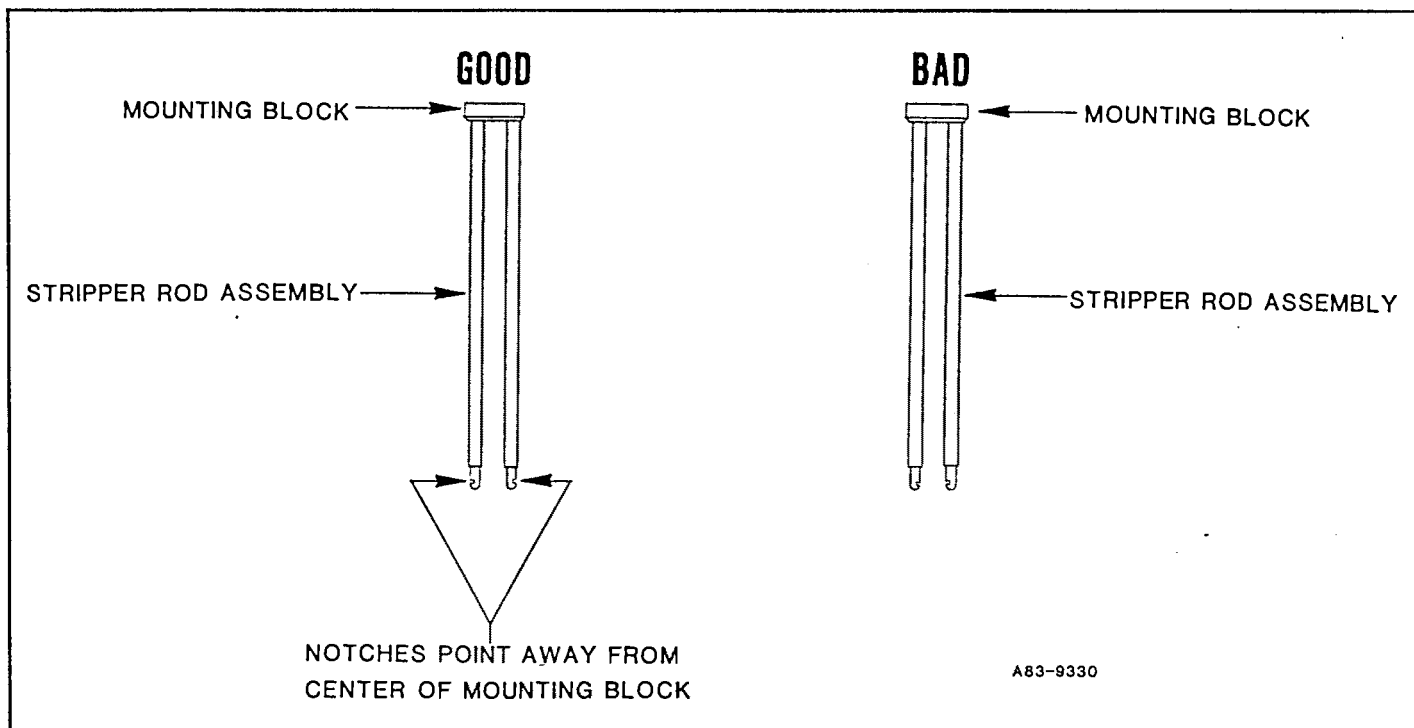

Figure 8.11 E
12. Loosen punch set screw (428) a few turns with 5/64" hex wrench.
13. Pull punch (430) out of punch holder (445).
14. Unscrew stripper spring set screw (431) with 3/8" hex wrench.
15. Turn punch holder (445) upside down and let stripper spring (433), spacers (435), and stripper rod assembly fall out of holder.
16. Inspect stripper rods (438) for damage. If stripper rods are OK, go to step 17. If stripper rods are damaged, replace them as follows:
- a. Unscrew stripper rod screws (436) with 7/64" hex wrench.
- b. Remove guide retaining block (437).
- c. Remove stripper rods (438) from guide mounting block (441).
- d. Pull O-rings (439) off of stripper rods (438).
- e. Put O-rings on new stripper rods (439).
- f. Put new stripper rods (438) in guide mounting block (441). Make sure that notches in end of stripper rods point away from center axis of mounting block as shown in Figure 8.11 E.
- g. Put guide retaining block (437) on guide mounting block (441) and secure in place with stripper rod screws (436).